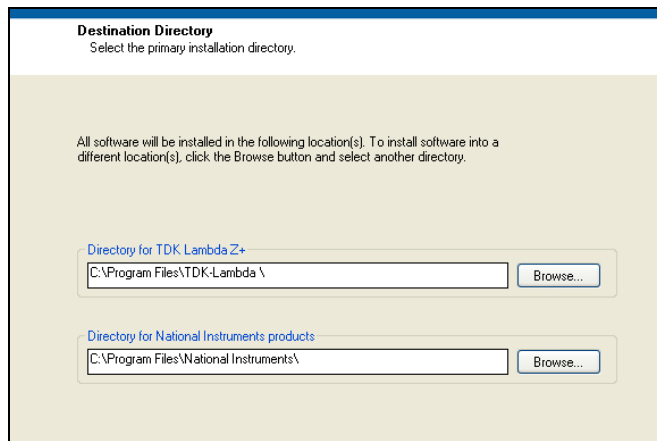

Fig 3
4. Select installation directory. Refer to Fig 3.